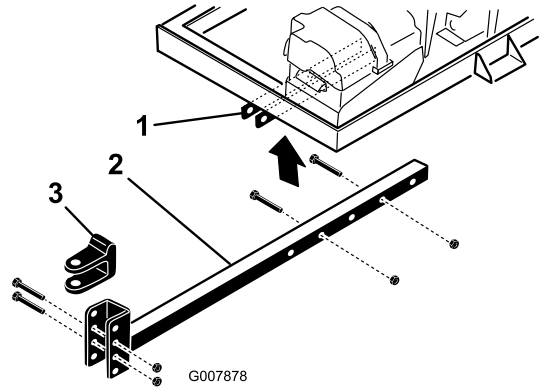

Figure 4
3. Insert the hitch tube into the frame brackets (Figure 4). Secure the tube to the frame with 2 bolts (3/8 x 3 inches) and flange nuts (3/8 inch) and torque to 40 N·m (30 ft-lb).
- Remove the bolts and locknuts securing the hitch clevis (Figure 4) to the hitch tube.